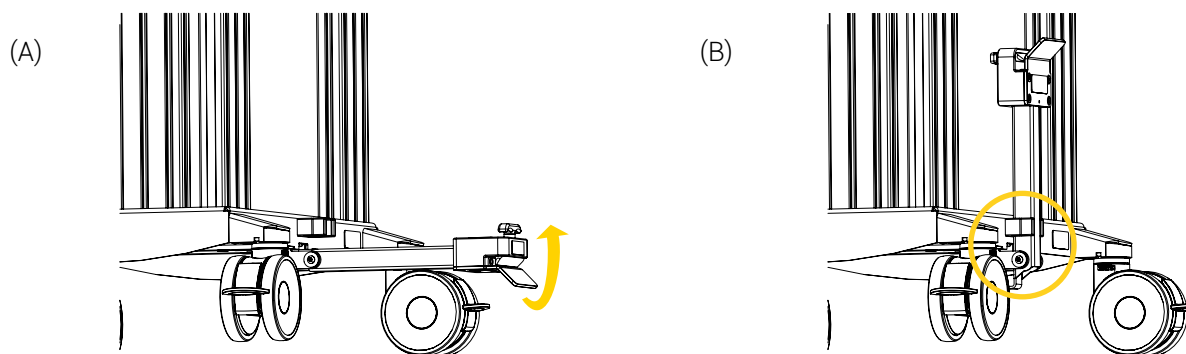

Figure 9 : Pivoting the fold-up hitch
4. Pivot the fold-up arm upwards until it has reached its final position, then press on the arm to insert and secure the arm in its clip using your foot (Figure 9).